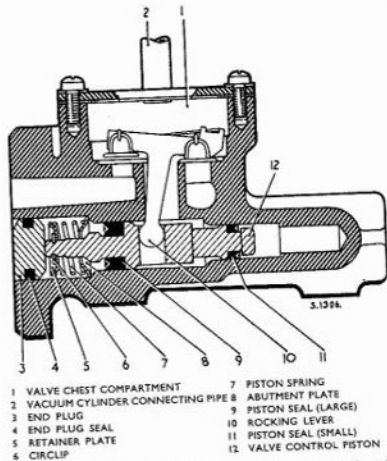

Fig. K.26. Sectional view of the valve control piston assembly and associated components
1. Re-assemble the valve control details as follows (see Fig. K.26).
- Position the dished abutment plate on the longer spigot of the piston as shown in Fig. K.26 and seat the piston spring on the abutment plate flange. The spring retainer plate can then be fitted on the spigot as shown in Fig. K.26 and retained by fitting the new circlip in the groove at the piston neck.